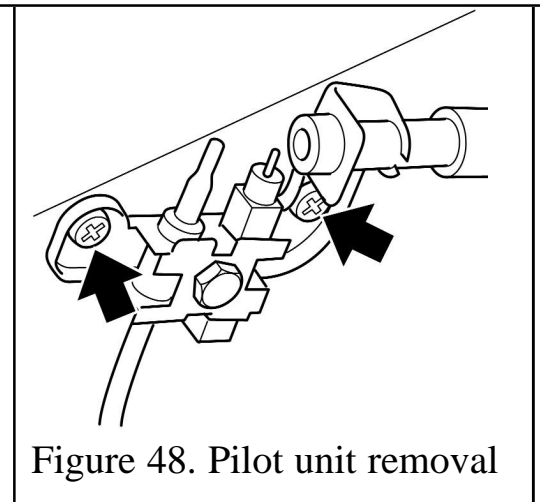

Figure 48. Pilot unit removal
6. Remove the two screws securing the pilot unit (See figure 48).